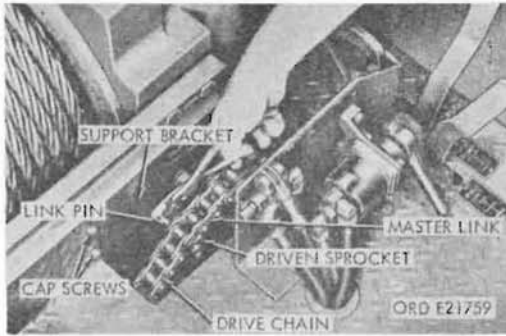

Figure 324. Removal of rear winch drive chain
- (2) Remove two capscrews and safety nuts securing floor plate (fig. 324) to support bracket bolted to rear of winch.
- (3) Operate winch in small increments until master chain link is visible, remove link pin, and remove drive chain (fig. 324).
- (4) Place drive chain around sprockets, pull ends of chain together, and install link pin (fig. 324).
- (5) Install two capscrews in holes in floor plate (fig. 324) and support bracket bolts to rear winch. Install safety nuts on screws and tighten.